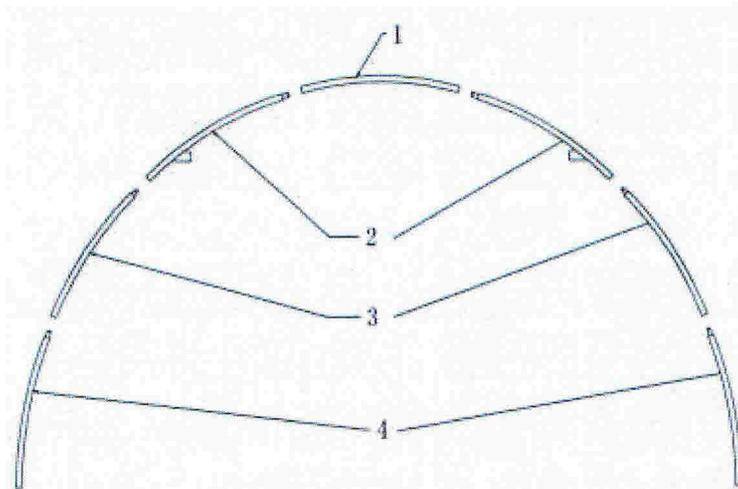

Figure 3
1.As figure 3 shown to find one piece of roof bent tube(No.1),two pieces of upper bent tube(No.2),two pieces of lower bent tube(No.3),two pieces of bottom bent tube(No.4).Connect them by using carriage bolt M10x90mm to be one arch and assemble the second arch like this.